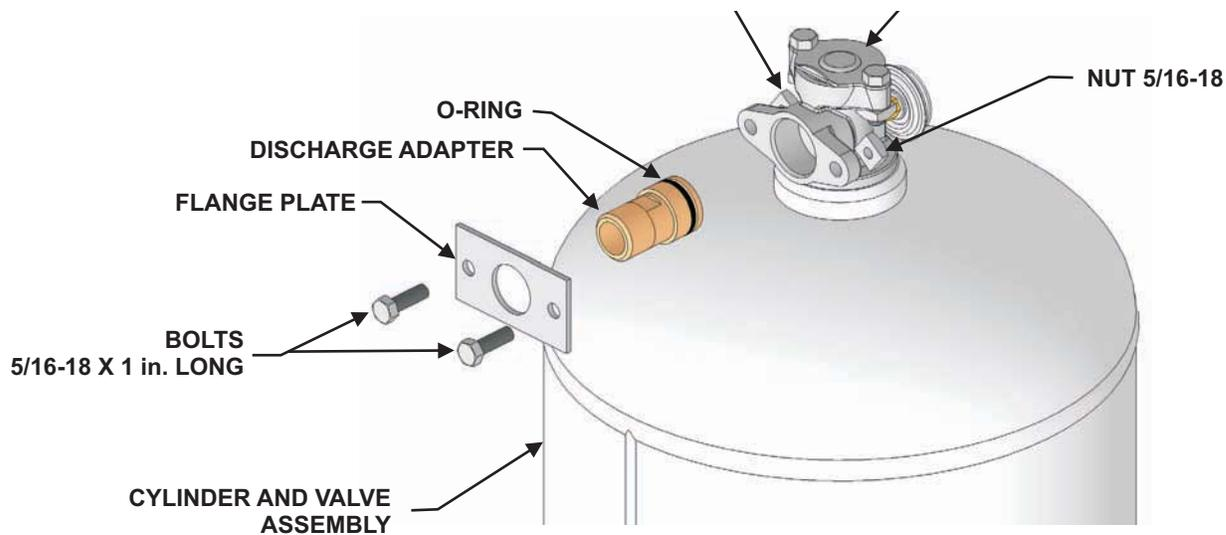

Figure 5-6. Removing Discharge Adapter Kit
9. Disconnect Discharge Adapter Kit (agent piping) from all cylinders (see Figure 5-6).